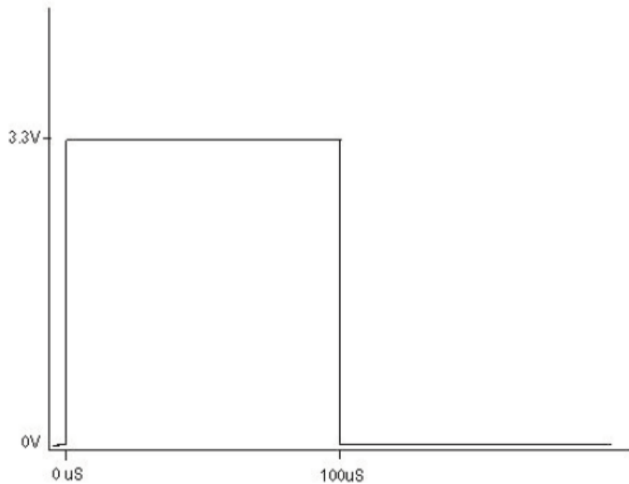

Figure 2
3. Set up the pulse generator to provide a manually triggered one time pulse. The pulse should be set up as per Figure 2.